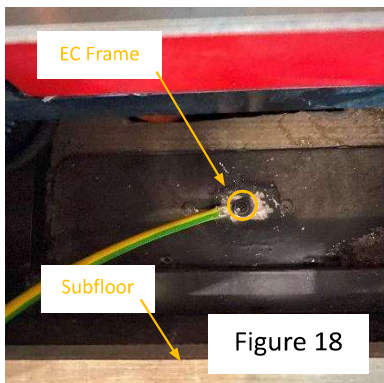

Figure 18
- Attach Cable B to Subfloor (square tubing) and sanded area of Electrical Cabinet Frame using 2x self-tappers and 2x lock washers (Figure 18 & 19)